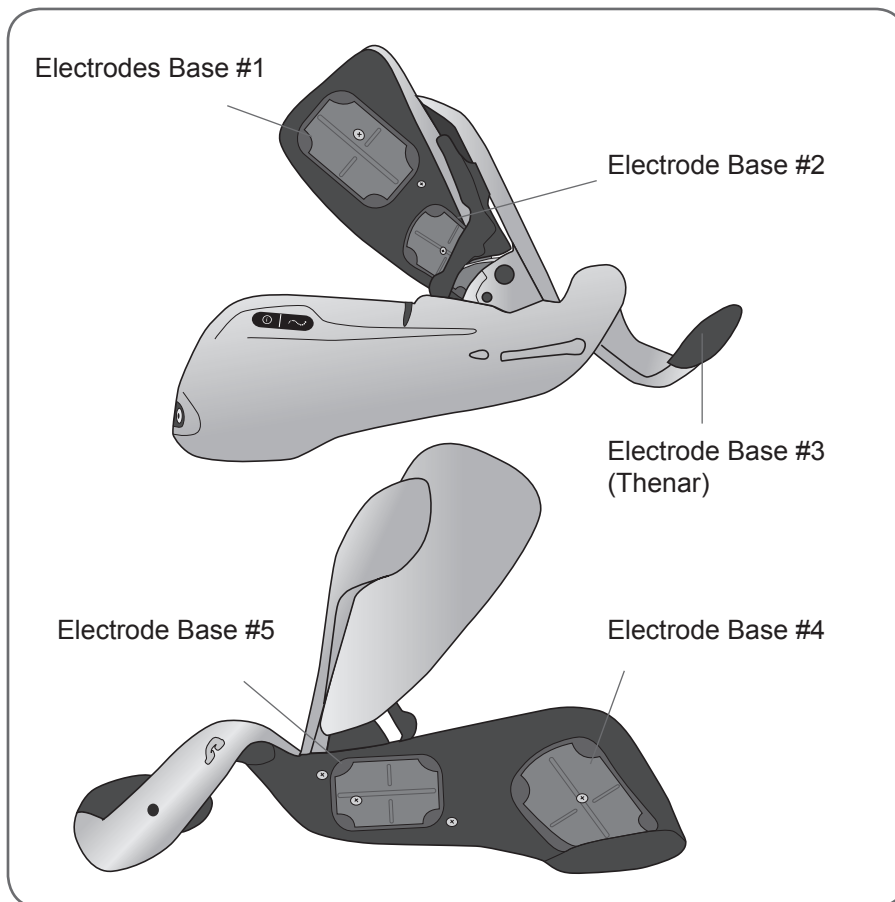

Figure 8-6: Electrode bases #1–#5.
5. Match each cloth electrode to its corresponding electrode base. See Figure 8-6.